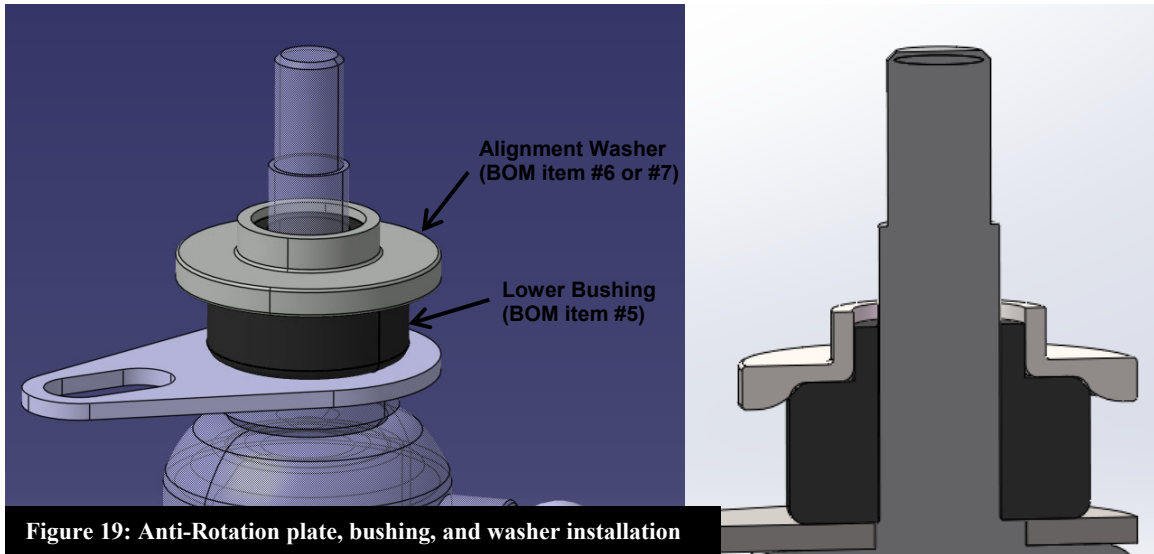

Figure 19: Anti-Rotation plate, bushing, and washer installation
- X. Slide the Lower Bushing (BOM item #5) and the appropriate Alignment Washer for your vehicle (BOM item #6 or #7) over the threaded pin on the shock body as shown in Figure 19.